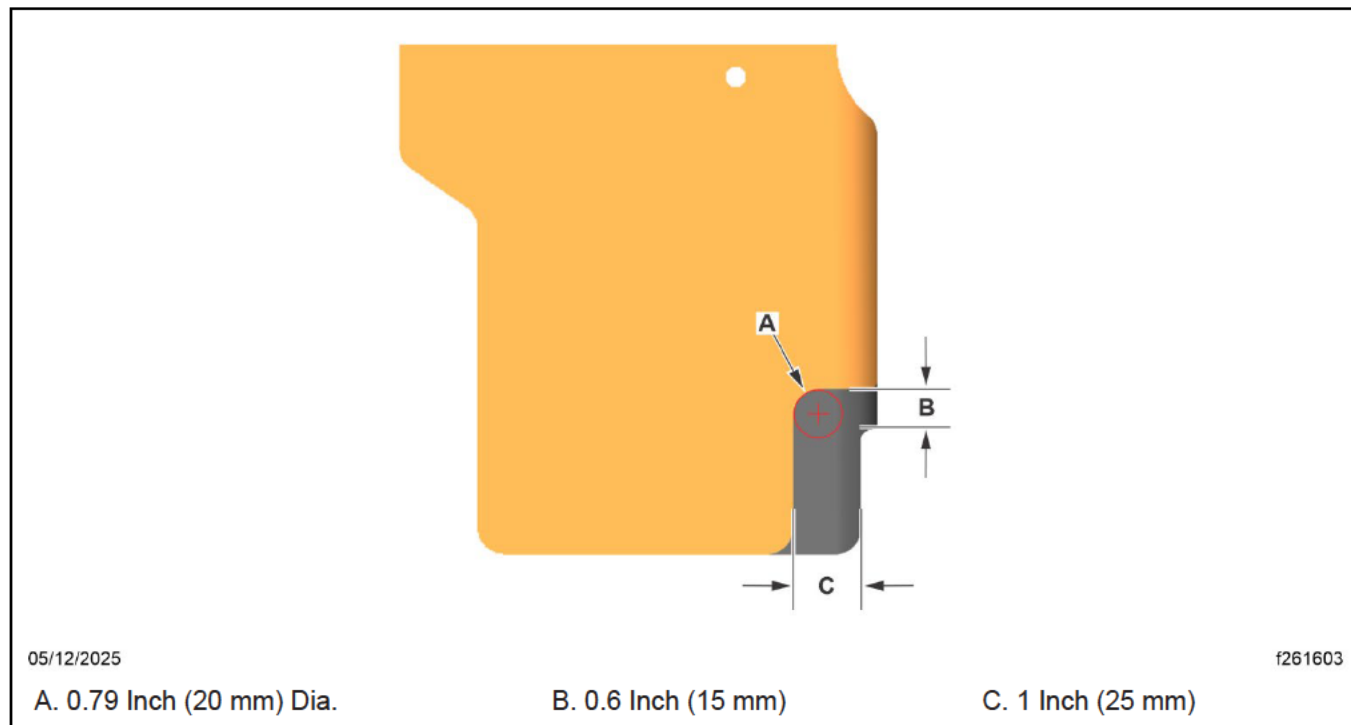

Fig. 1, Cut-Out Adjustment Dimensions
6. Mark the new cut-out shape for the transmission cooler plumbing, per the dimensions detailed in Fig. 1.